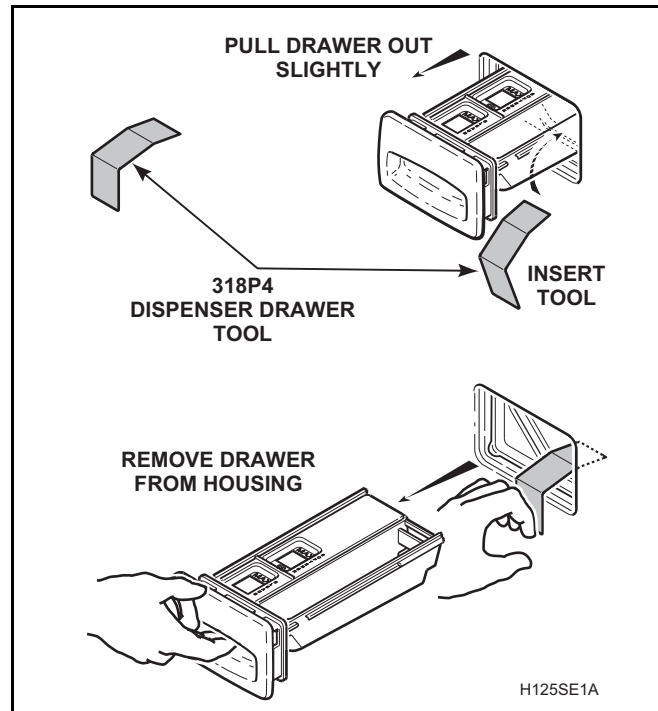

Figure 30
- Using the special tool, No. 318P4, remove the dispenser drawer. Refer to *Figure 30*.
- k. Using the special tool, No. 318P4, remove dispenser drawer. Refer to *Figure 30*.